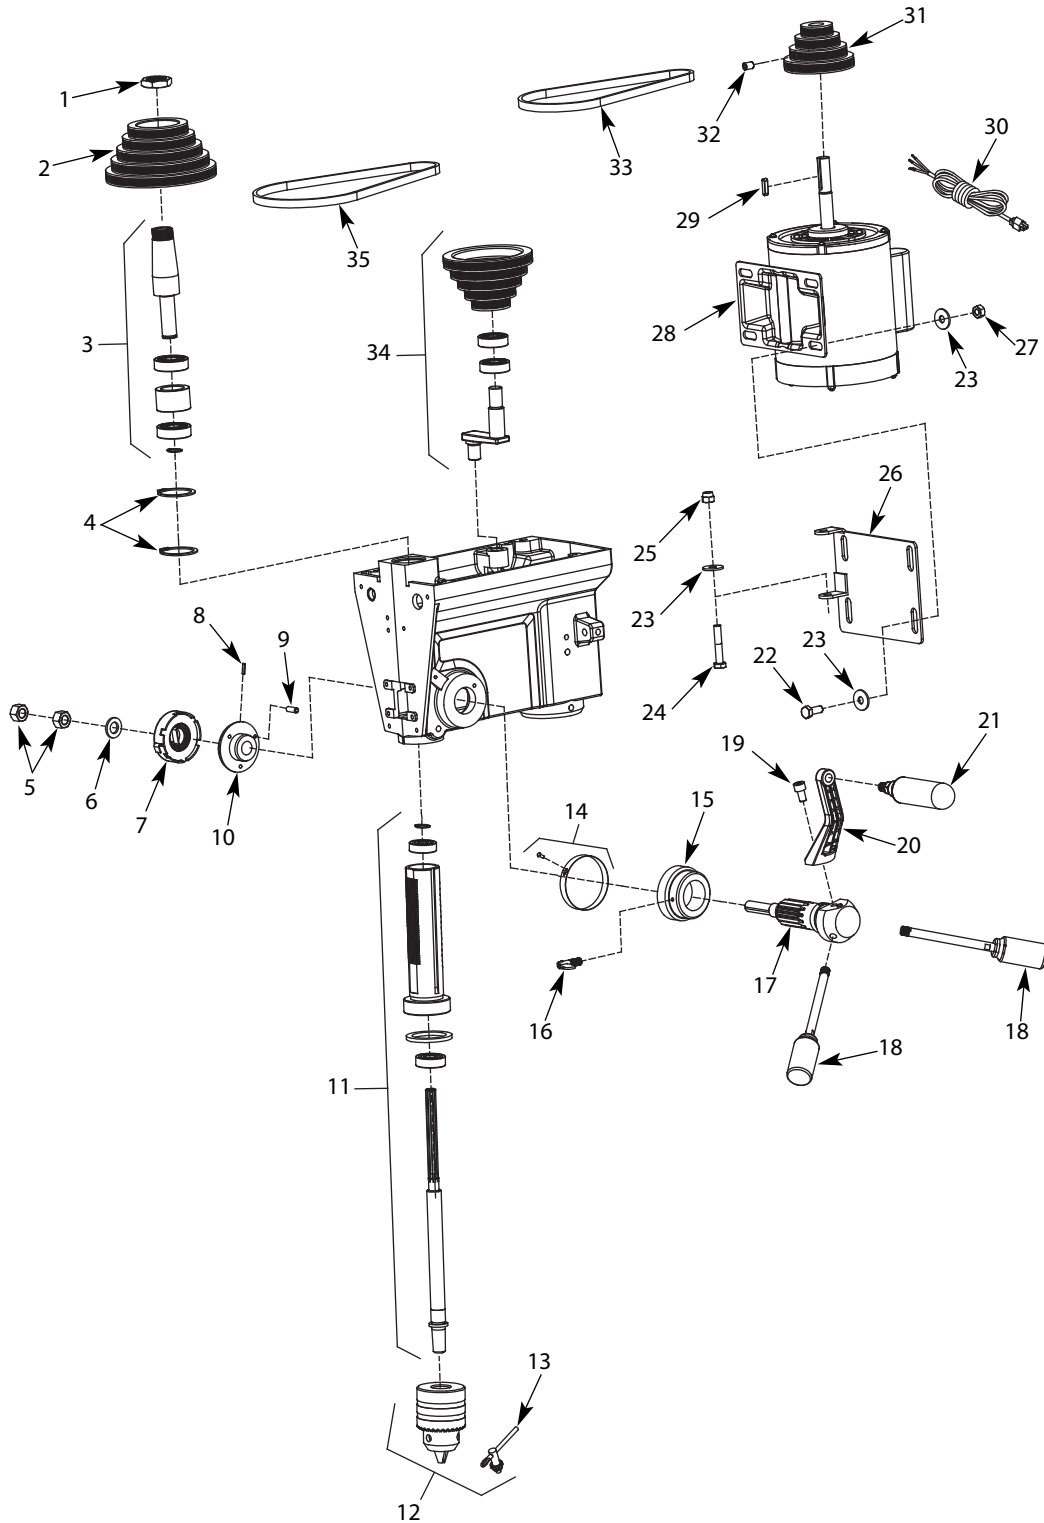

Figure 8 – Repair Parts Illustration for Spindle and Drive
- Lower quill assembly (Figure 8, Ref. No. 11) all the way down.
- Apply lubricant around the inside of the hole in the spindle pulley (Figure 8, Ref. No. 2).
- Apply lubricant to rack (teeth) on quill (Figure 8, Ref. No. 24) while extended below drill press head.